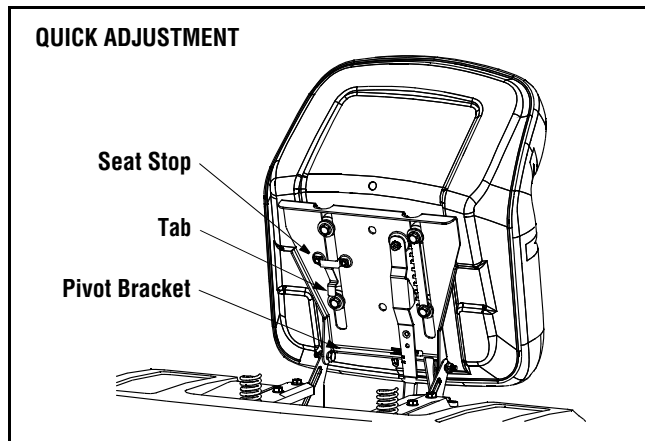

Figure 3
Refer to Figures 3 and 4 to identify your tractor's seat style and follow applicable instructions.
NOTE: If your seat was shipped mounted backwards on the seat pivot bracket, pull out the tab found on the seat stop and hold it open while sliding the seat off the seat pivot bracket. See Figure 3.
- Slide seat in until front seat spacer engages the seat stop. See Figure 3.